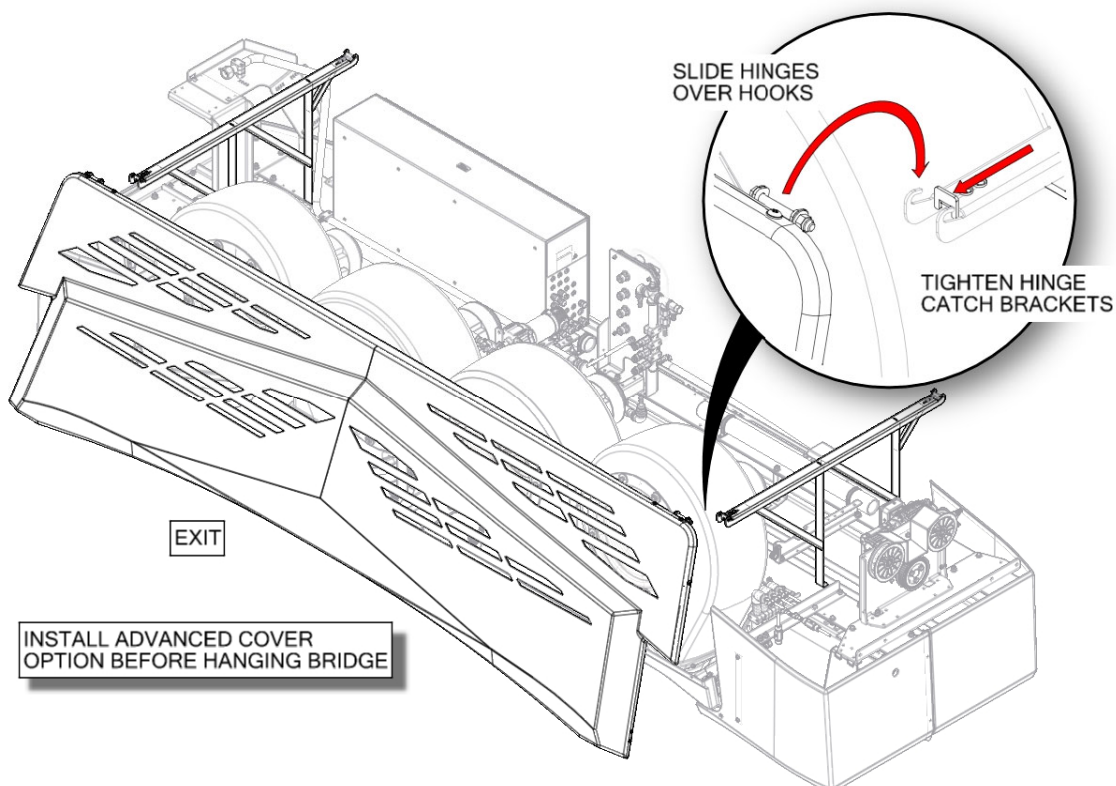
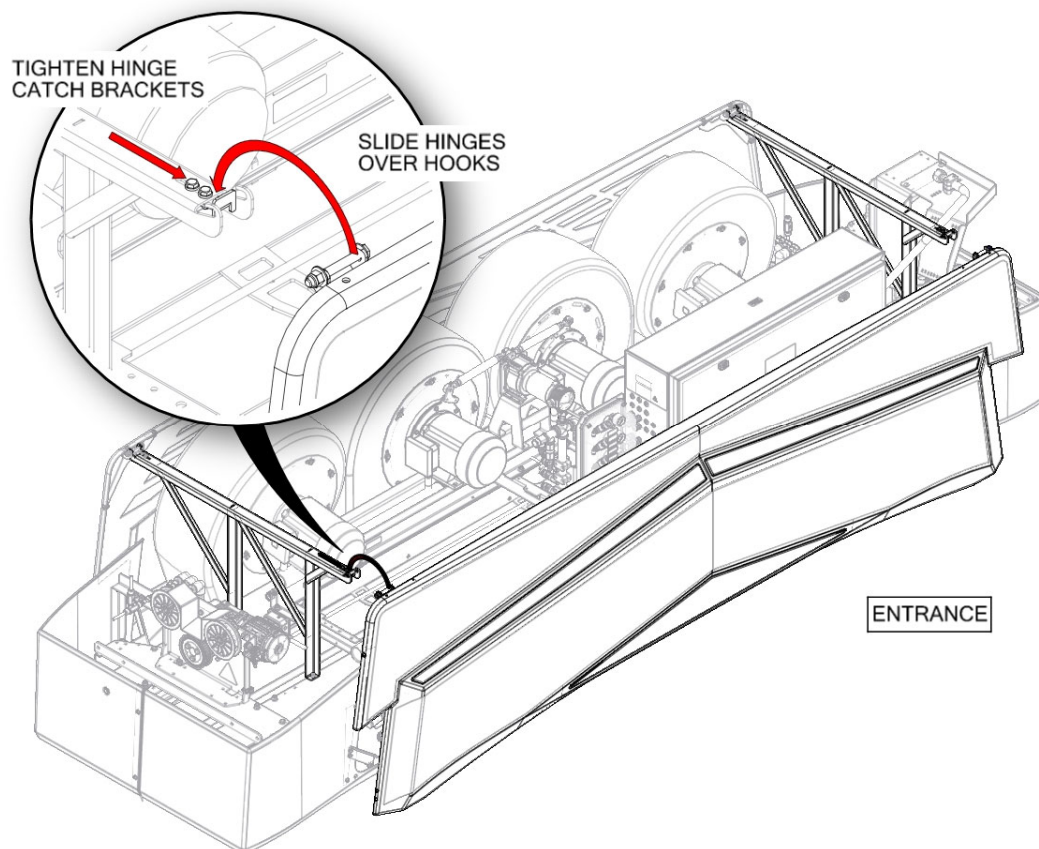

Figure 66 – Advanced Covers, Back Cover Installation
Figure 67 – Advanced Covers, Front Cover Installation
- Lift the center cover and slide the hinges onto the hooks of the center cover frames on the bridge, Figure 66 and Figure 67.